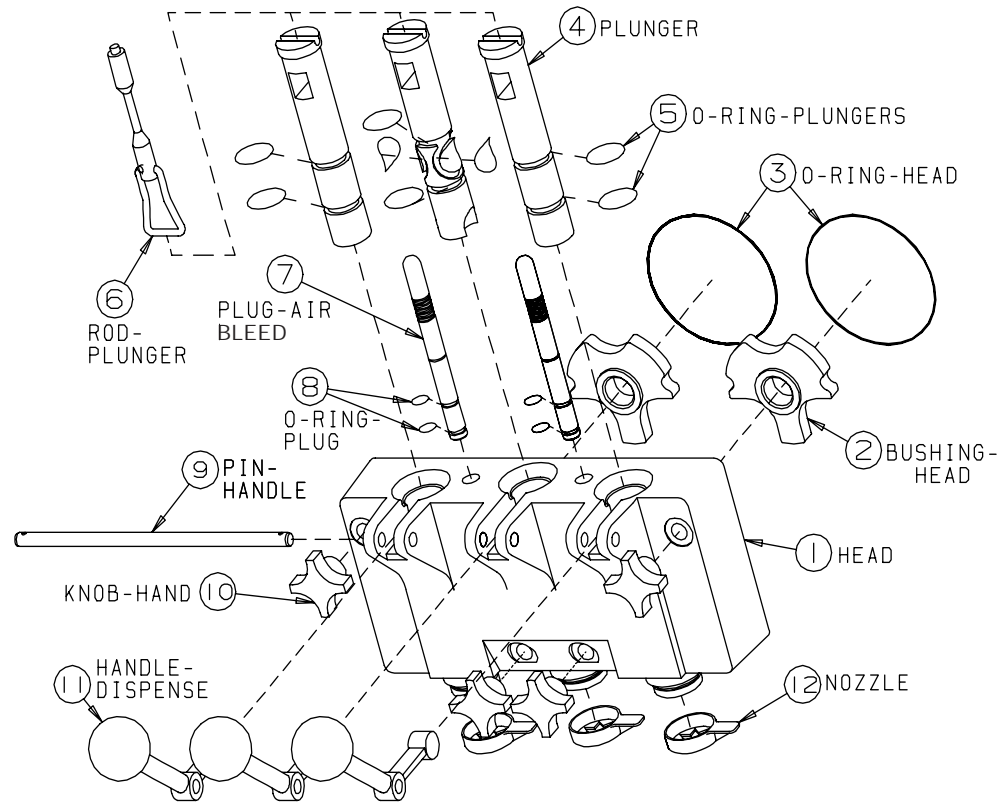

Figure 7-4 Dispense Head Assembly
5. (Refer to figure 7-4.) Install and then lubricate the O-rings on the dispensing plungers and insert all three halfway into the head.